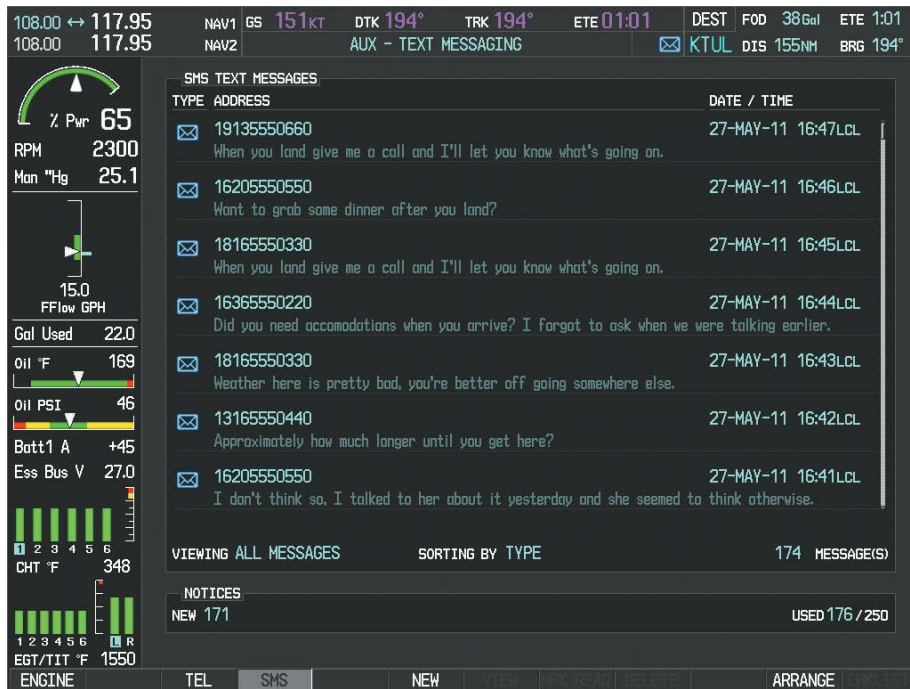

Figure 8-93 Text Messaging Page
- 3) If necessary, select the **SMS** Softkey to display the AUX-TEXT MESSAGING Page as shown in Figure 8-93.